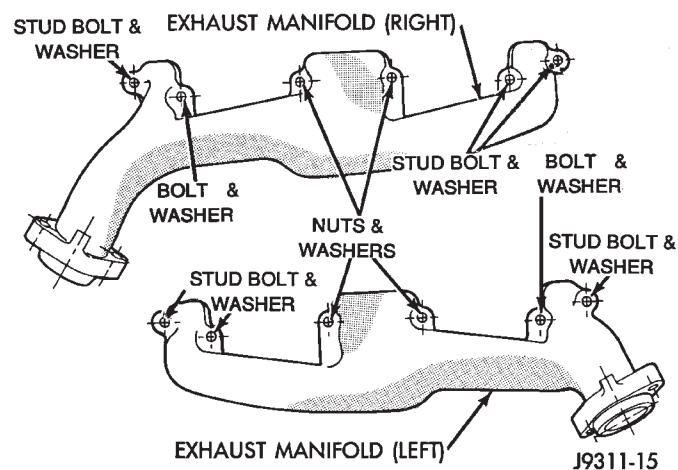

Fig. 13 Exhaust Manifold
(1) Position the exhaust manifolds on the two studs located on the cylinder head. Install conical washers and nuts on these studs (Fig. 13).
(2) Install new bolt and washer assemblies in the remaining holes (Fig. 13). Start at the center arm and work outward. Tighten the bolts and nuts to 34 N•m (25 ft. lbs.) torque.
(3) Raise the vehicle.
(4) Assemble the exhaust pipe to the exhaust manifold and secure with bolts, nuts and washers. Tighten these nuts to 31 N•m (23 ft. lbs.) torque.
(5) Lower the vehicle.
(6) Install the EGR tube (refer to Group 25, Emission Control Systems).